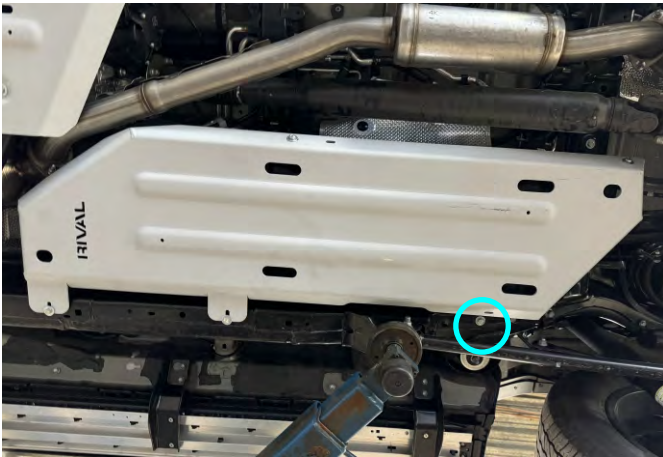

Fig. 7
5. Secure bracket 3 (item 4) using bolt M8x25 and washer M8 (items A, B) as shown in fig. 7, 8.